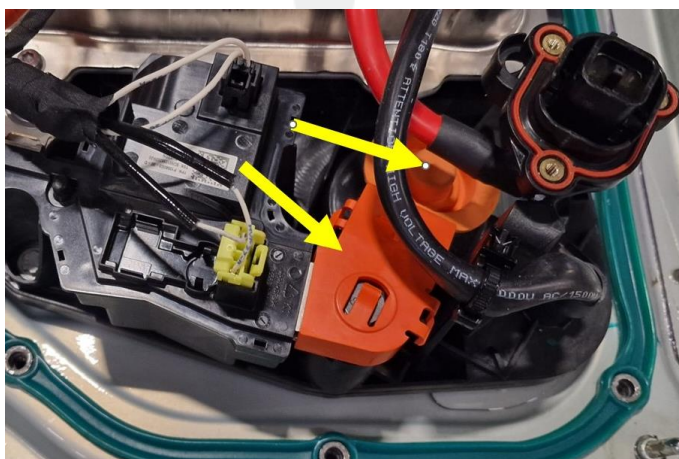

Figure 2
4. Verify that the HV insulator covers are present (Figure 2).